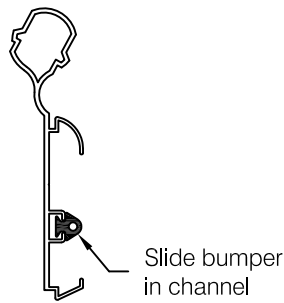

fig 4
**Step 6** Cut flexible cushion short enough to comfortably fit between molded accessories. Slide cushion into receptacle on retainer, see **fig. 4**.